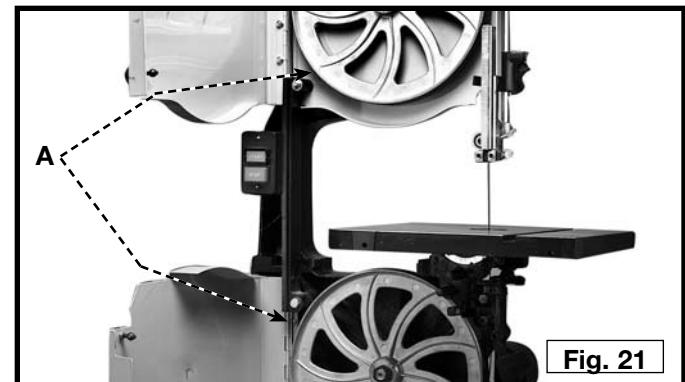

Fig. 21
5. Place the blade around the two wheel assemblies (A) Fig. 21.